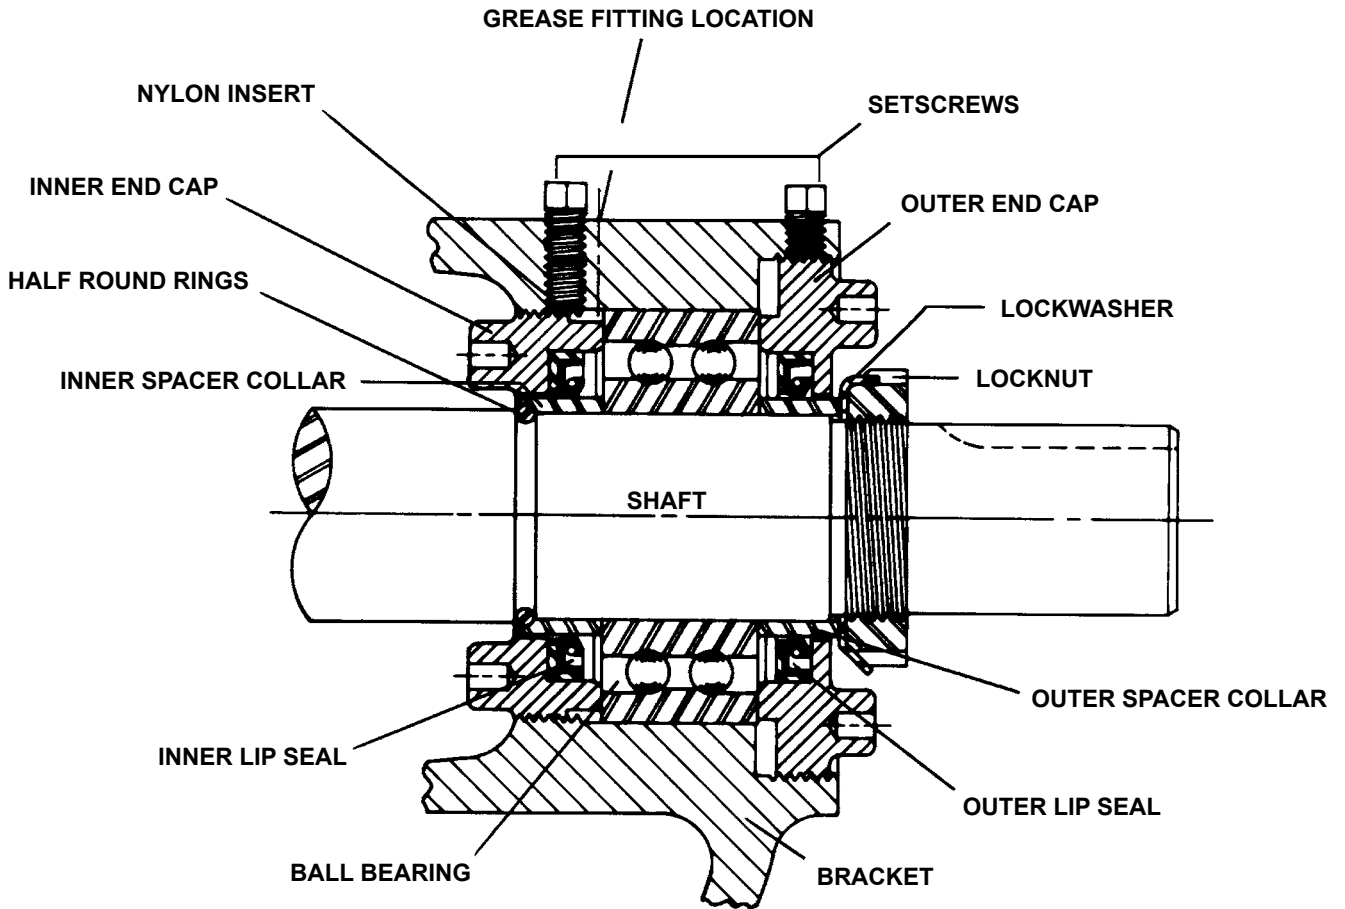

FIGURE 5
8. Loosen four setscrews over the inner and outer end caps. Remove both end caps with lip seals, spacer collars and ball bearing. **Refer to Figure 5, page 11.**
Place pair of half round rings on shaft and slide inner bearing spacer collar over half round rings to lock them in place. There is no pair of half round rings on Q, QS and M size pumps. **Refer to Figure 5, page 5.**
- Press lip seal, lip facing end of shaft, in inner end cap and insert end cap through shaft end of bracket. Turn end cap clockwise, looking at shaft end, until it engages threads. End cap spanner wrench holes must be facing rotor. Turn end cap with spanner wrench until it projects slightly from opening on side of bracket. End cap must not be turned so far that lip seal drops off end of spacer collar on shaft or end cap becomes disengaged from threads. **Refer to Figure 5, page 5.**
- Press lip seal, lip facing end of shaft, in outer end cap and insert end cap in bracket. Turn end cap in bracket until it is tight against bearing. **Refer to Figure 5, page 5.**
- Put lockwasher and locknut on shaft. Insert length of hardwood or brass through port opening between rotor teeth to keep shaft from turning. Tighten locknut to 120-150 ft.-lbs. Torque (LS) or 170-190 ft.-lbs. Torque (Q, QS, M). Bend one tang of lockwasher into slot of locknut. If tang does not line up with slot, tighten locknut until it does. Failure to tighten locknut or engage lockwasher tang could result in early bearing failure and cause damage to rest of pump.